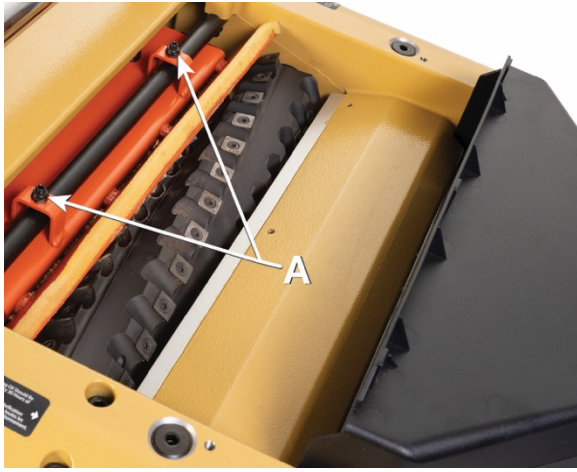

Figure 9-15
2. Loosen the lock nuts (A, Figure 9-15) at both ends of the chipbreaker and turn the set screws to raise or lower the chipbreaker as needed. The set screws should be turned the same amount.
3. When the chipbreaker contacts the gauge block, tighten both lock nuts (A, Figure 9-15).